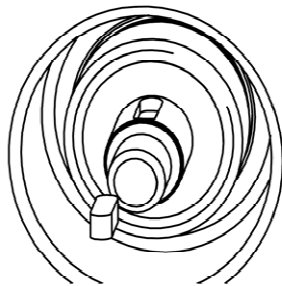

Figure 13
5. Insert key into the keyway in the stub shaft, Figure 13.